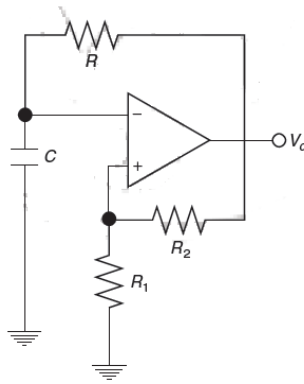

Figure 1: Astable Multivibrator
For your ready reference, we have included the block diagram of the astable multivibrator in Figure 1 below.
2.4 In Figure 1, lift  $R_1$  to +5V potential (connect  $R_1$  to +5V instead of ground). What happens to the astable action and highest frequency of the multivibrator? Submit the readings and also the transient response.